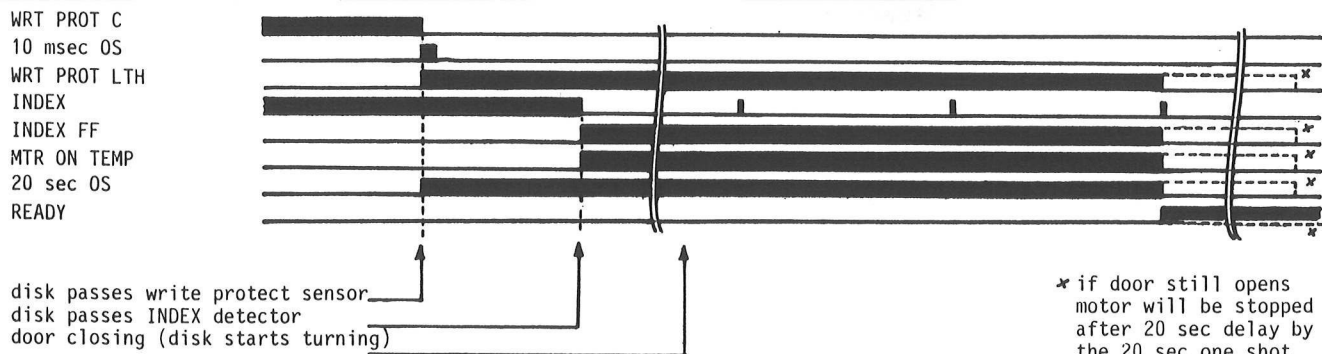

FIGURE 2 - 16 : TIMING DIAGRAM TEMPORARY MOTOR ON LOGIC
2.3.6.2. DRIVE MOTOR CONTROL (FIG. 2 - 17)